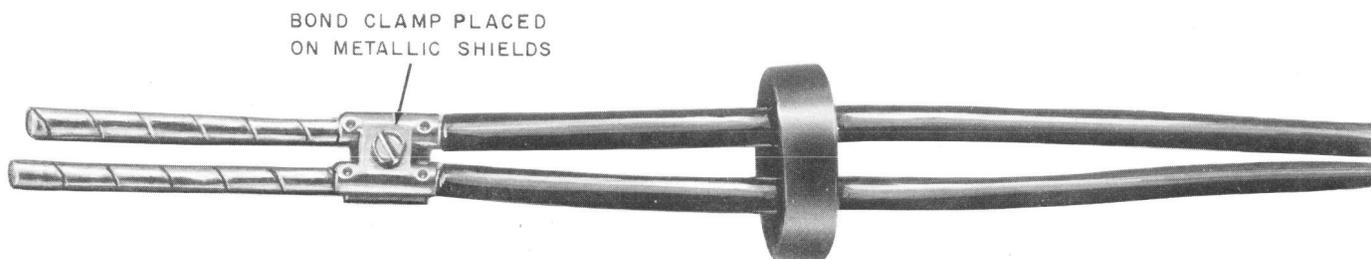

Fig. 3—Installed Bond Clamp
- 4.02** Install bond clamp on the exposed metallic shields of the two service wires as shown in Fig. 3 and tighten the screw.